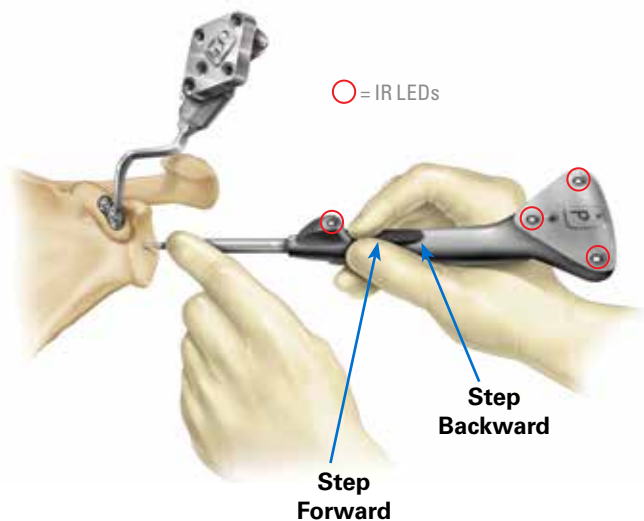

Figure 30a
Before beginning registration, ensure that the G Tracker is completely seated on the coracoid block. Press the Probe Tracker (P) with the index finger on the Forward button making sure not to obstruct the IR LED between the button and the probe tip (*Figure 30a*).